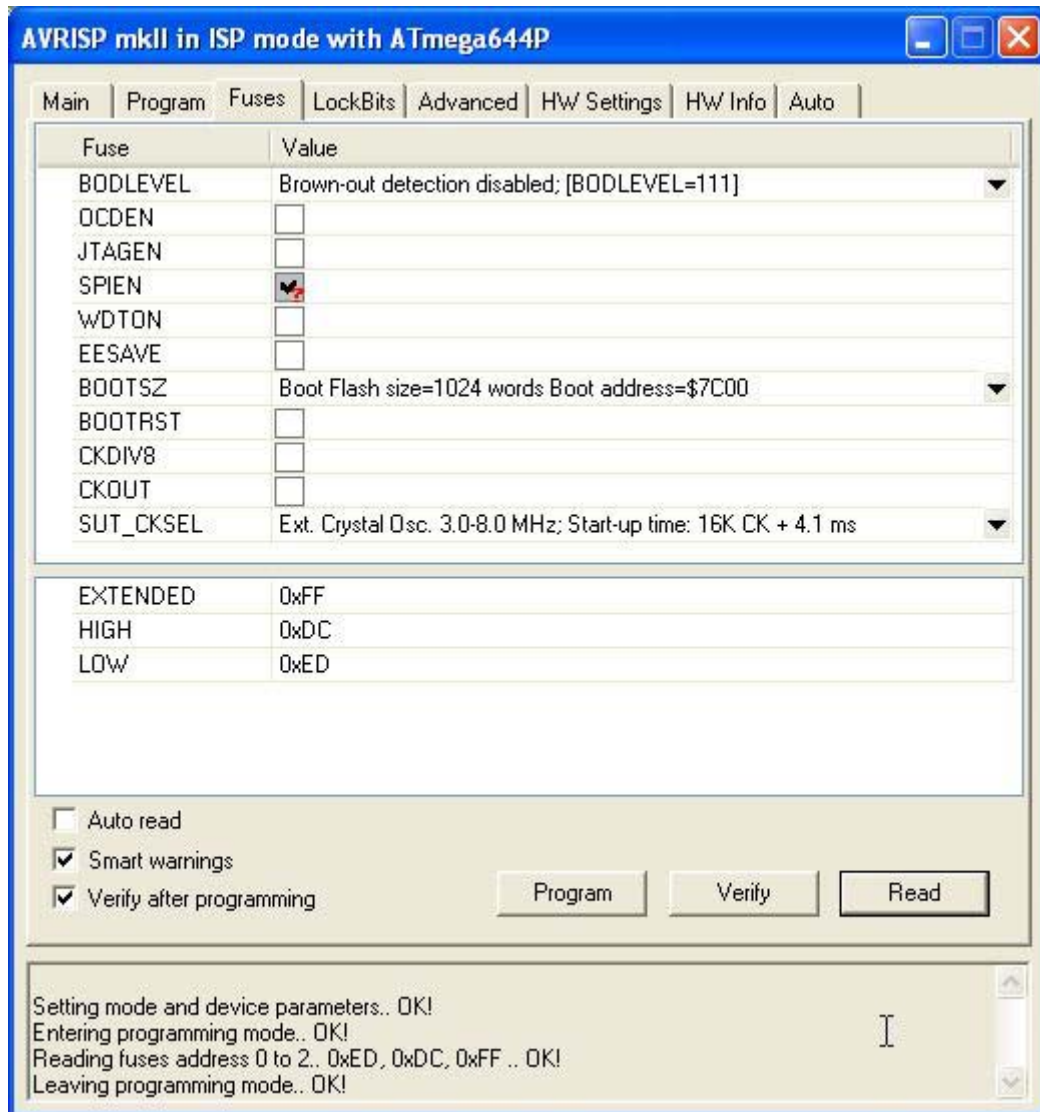

FIGURE D7: AVR STUDIO SETTINGS FOR AVRISP MK II (3 OF 4)
- k) In the window *Fuses* set the configuration fuses according to the needs of the user application. It is important to remember that those fuses influence the functioning of the Mini Module and they must be set very carefully or the whole system could work not properly. The figure D7 shows the configuration that grifo® suggests for the demo of the GMM AM644, while the other supplied one, enables the Bootloader with the fuse BOOTRST.
- l) In the window *Fuses* set the configuration fuses according to the needs of the user application. It is important to remember that those fuses influence the functioning of the Mini Module and they must be set very carefully or the whole system could work not properly. The figure D7 shows the configuration that **grifo**[®] suggests for the **JTAGICE mk II**, while the other supplied one, enables the *OCDEN* and *JTAGEN* items. That provided from **grifo**[®] don't enable this interface but the Bootloader with *BOOTRST* fuse.